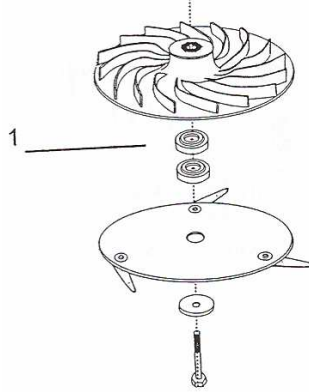

Figure 15
6. **To obtain a lower cut** add height adjustment spacer (s) between the impeller hub and the cutter disc. Remount the cutter disc. Install the flat washer and the impeller retaining bolt. Tighten the bolt securely. (Fig. 15)